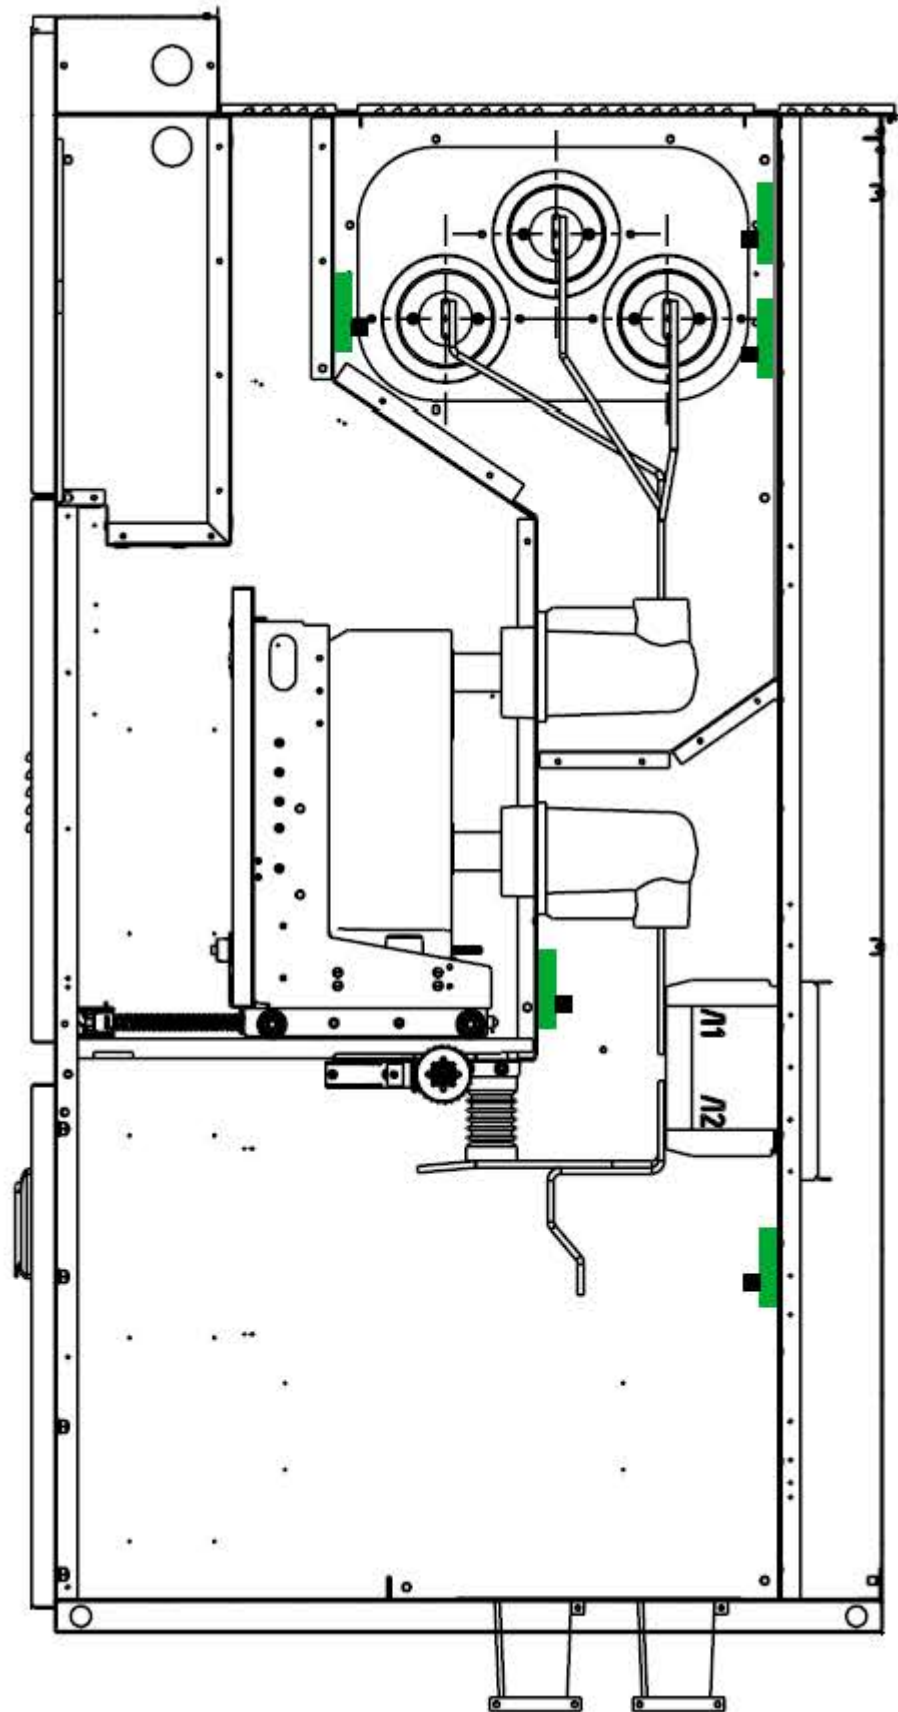

Figure 4.2. The location of ITS sensors in a switchgear panel D12-P series
- 4.5.4 The recommended location of ITS sensors in a switchgear panel D12-P series is shown on figure 4.2.